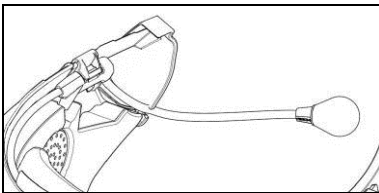

Fig. 8
- Position the microphone in the housing on the left of the helmet, inserting the metal boom in the groove found in the chin guard coupling frame (Fig. 8).